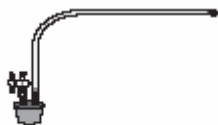

Figure 2
- c. Obtain a rubber-stopper assembly with a piece of heavy-wall plastic tubing connected to one of its two valves. Attach the connector at the free end of the plastic tubing to the open stem of the Pressure Sensor with a clockwise turn. Leave its two-way valve on the rubber stopper open (lined up with the valve stem as shown in Figure 2) until Step 5e.